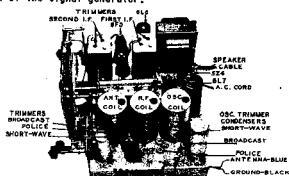

FIGURE 4
- 3.- Adjust the four trimmers of the two intermediate frequency transformers (see Figure 4) for maximum output with minimum input from the service oscillator.
The parallel or high frequency trimmer condensers for each coil are housed in the same shield can with the coil, with the exception of the oscillator trimmer, these are air dielectric condensers and are mounted on the chassis. These trimmers are used for aligning the high frequency end of each band. The location of the various trimmers is shown in Figure 4.
The oscillator, adjustable, series padding condensers are used for tracking the oscillator at the low frequency end of each band. The padding condensers may be adjusted from the top of the chassis through the holes indicated in Figure 4. Since a fixed mica padding condenser is in padding condenser adjustment, no adjustment is necessary, while maximum output is obtained, the gang condenser should be rotated back and forth across the signal to insure adjustment to the peak of greatest intensity.
- 4.- Adjust the broadcast band oscillator trimmer condenser (Figure 4) for maximum output with minimum input from the signal generator. Then adjust the broadcast band radio frequency and antenna stage trimmers for maximum output.
- 7.- Adjust the broadcast band oscillator padding condenser (top of chassis, see Figure 4) for maximum output with minimum input from the signal generator, at the same time rocking the tuning condenser back and forth across the signal to insure the peak of greatest intensity.
- 4.- Adjust the police band oscillator trimmer condenser (Figure 4) for maximum output with minimum input from the signal generator, then adjust the police band radio frequency and antenna stage trimmers for maximum output.
- 7.- Adjust the police band oscillator padding condenser (top of chassis, see Figure 4) for maximum output with minimum input from the signal generator, at the same time rocking the tuning condenser back and forth across the signal to insure the peak of greatest intensity.
- 4.- Adjust the short wave band oscillator trimmer condenser (in Figure 4) for maximum output with minimum input from the signal generator. Then adjust the short wave band antenna and radio frequency stage trimmers for maximum output, at the same time rocking the tuning condenser back and forth across the signal to insure the peak of greatest intensity.